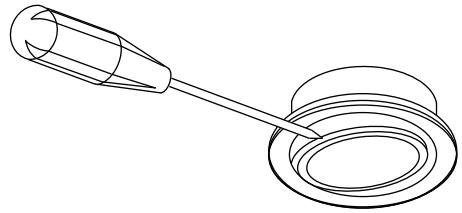

Fig 14
**12V halogen G4 attachment:** Use a screwdriver to unscrew the glass support ring (**Fig 14 & 15**). Remove the glass and change the light bulb. Replace the protective glass and screw back the ring. The light bulbs can be purchased in any electrical supply shop.